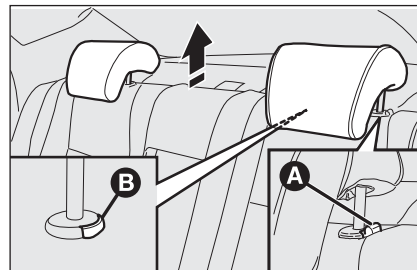

fig. 35
- press buttons **A** and **B**-fig. 35 (set aside the two head restraint supports) then remove the head restraints by pulling them upwards.